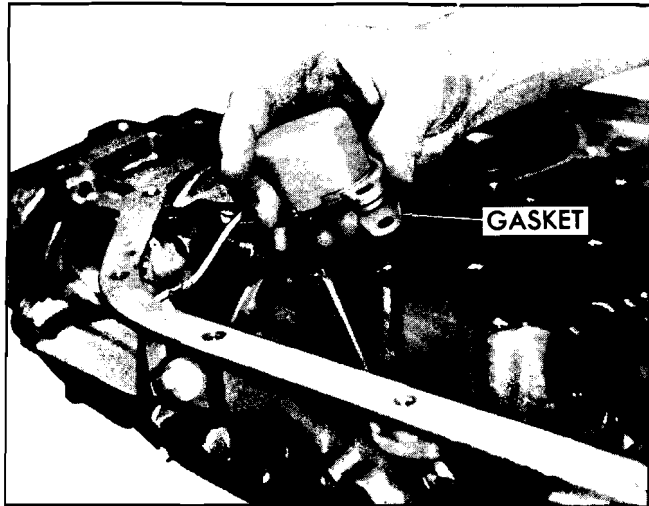

Fig. 7E-170 Installing Detent Solenoid and Gasket
9. Install detent solenoid and gasket, with connector facing outer edge of case (Fig. 7E-170).